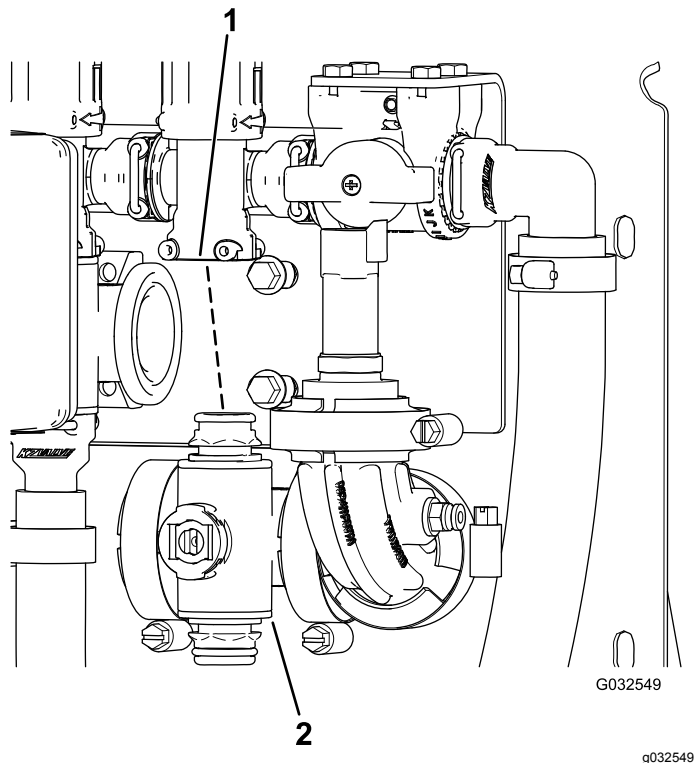

Figure 106
3. Remove the section-valve manifold from the machine (Figure 106).